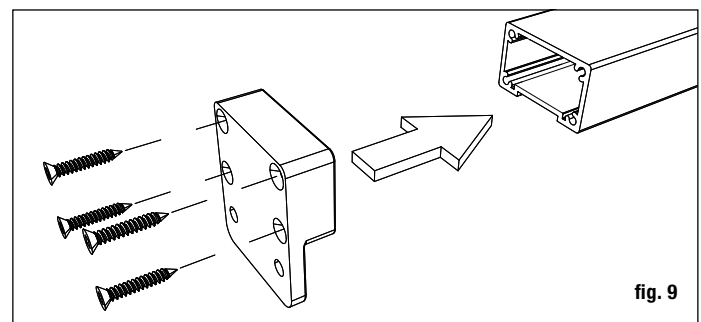

fig. 9
**Step 7** Place the brackets on ends of the rail. Attach the brackets to the rail with a screw attached through back of bracket into each internal screw boss (fig. 9).